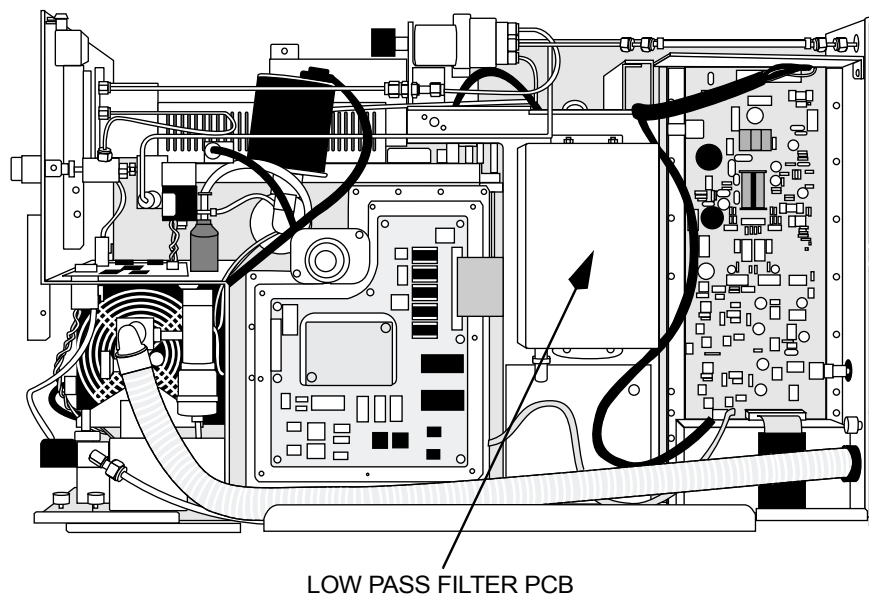

Figure 7-23. Low Pass Filter PCB
5. Remove the metal cover of the Low Pass Filter PCB. Figure 7-23 shows the location of the Low Pass Filter PCB.